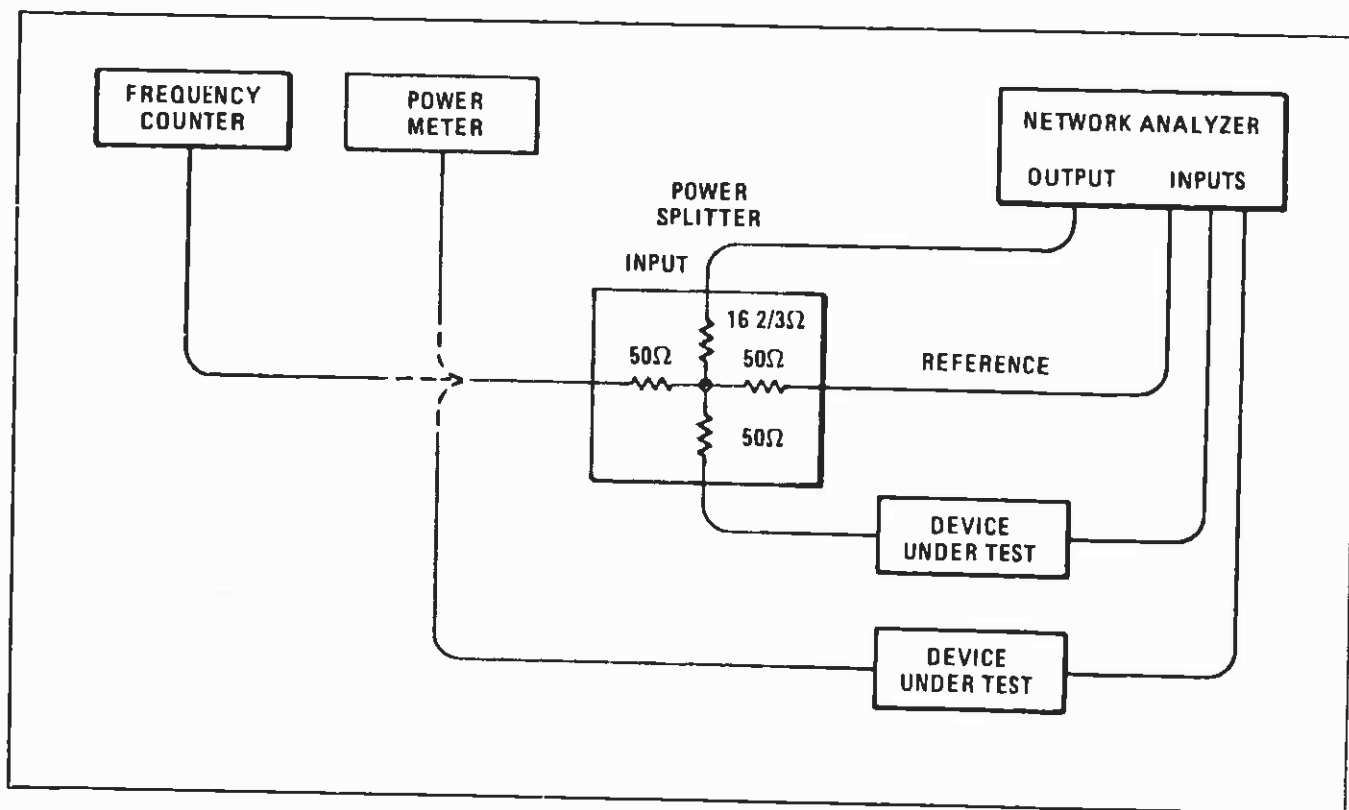

Figure 1. Simplified Diagram of Typical Network Analyzer System
11. The HP 11850A is a four-port, four-resistor, three-way power splitter for use in network measurement systems where one output arm is used as the reference for the network analyzer in making ratio measurements and the other two output arms are test channels. A simplified diagram of a typical network analyzer system is shown in Figure 1.